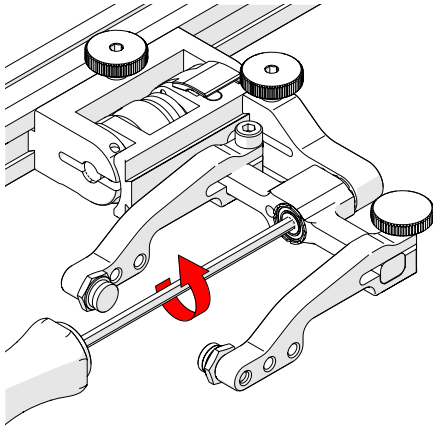

Fig. 118 - Unscrew yoke pivot screw
1. Unscrew the yoke from the swing arm (Fig. 118).